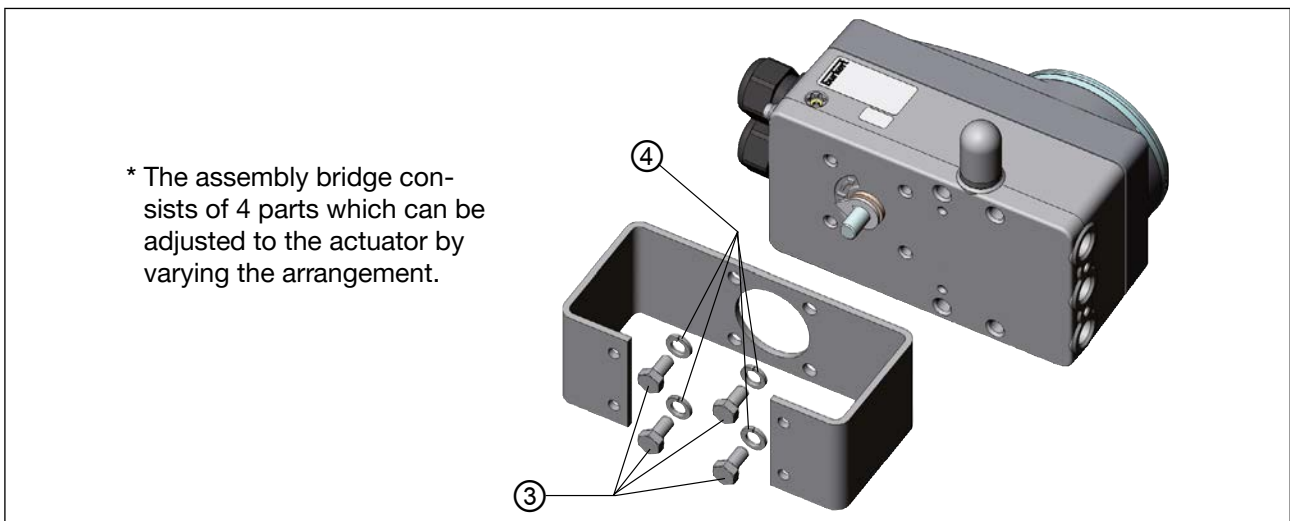

Fig. 19: Attach assembly bridge (schematic representation)
→ Attach the assembly bridge to the Type 8792/8793 using 4 cheese-head screws ③ and circlips ④ (see "Fig. 19").